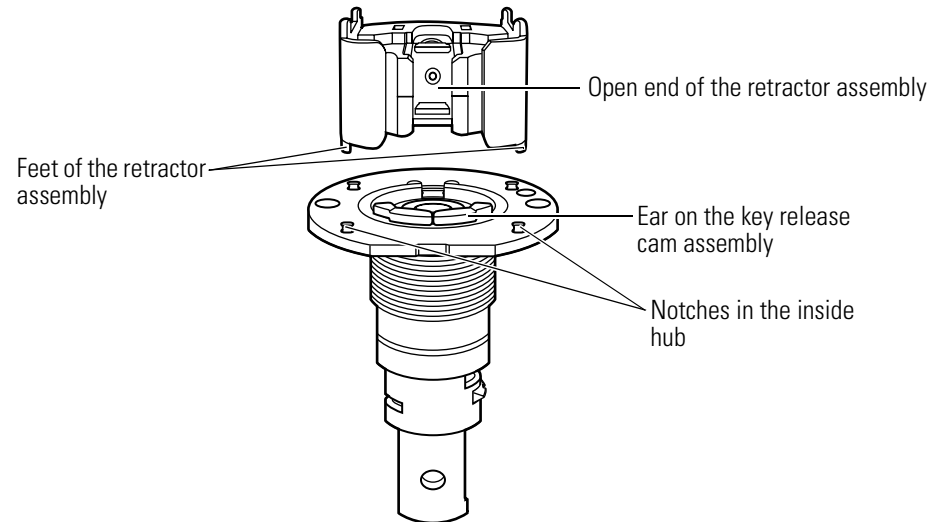

Figure 3.21 Positioning the retractor
5. Press the retractor toward the retractor springs and insert the feet of the retractor assembly into the notches in the inside hub, as shown in Figure 3.21.